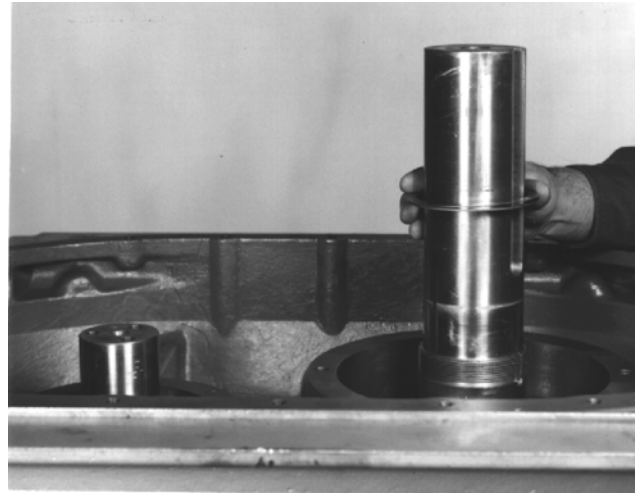

FIGURE 16
16. Check the end of the bearing spacer for dirt and burrs. Be sure the bearing spacer is solid against the rotor. Slide shim set over the shaft extension, FIGURE 16, page 33, up against the end of the bearing spacer.